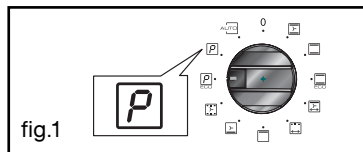

fig.1
All you have to do is position your cooking selector-switch on the  "Self-cleaning" position or the  "ECO self-cleaning" position (fig.1).
- Unscrew the view port (fig.1).